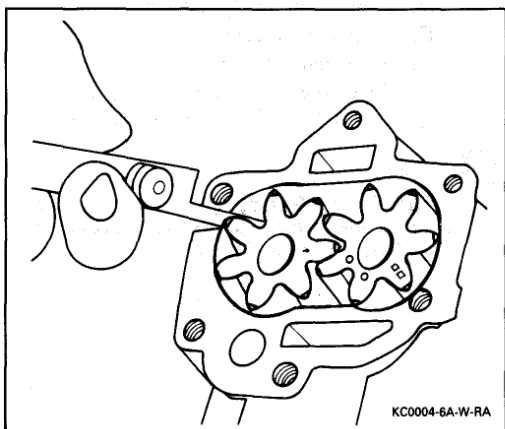

Figure 47 Measuring Gear Side Clearance
- Gear side clearance (Figure 47).